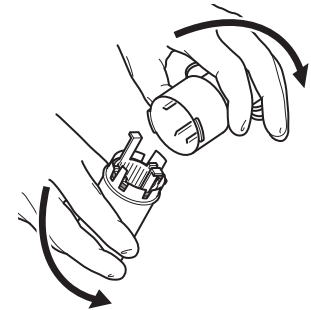

Figure 9 Remove Manifold Lid
1. Remove the manifold's lid after the surgical procedure (Figure 9).